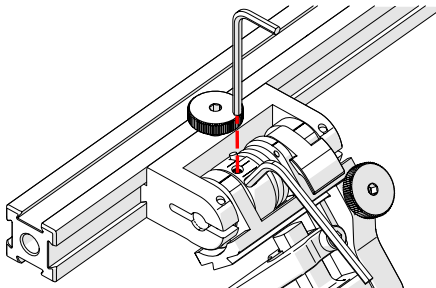

Fig. 48 - Insert hex wrenches
3. Insert the short arm of a 3 mm hex wrench into the 3 mm slot (Fig. 48).
4. Place the 2 mm hex wrench into the force adjustment screw (Fig. 48).